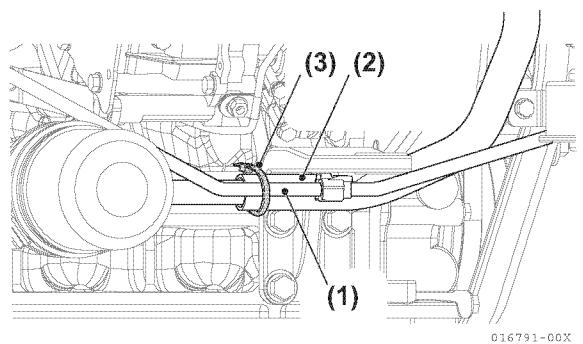

Figure 5-186
- Attach the feed pump wire harness to the oil cooler water pipe by nylon band (for 4JH4AE only) (**Figure 5-186**).